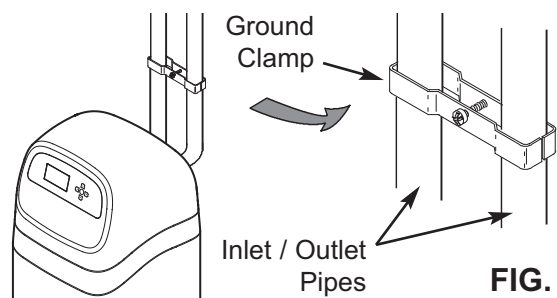

FIG. 13
- Use the EcoWater ground clamp kit (not included) to make a jumper across the inlet and outlet pipes (See Figure 13).